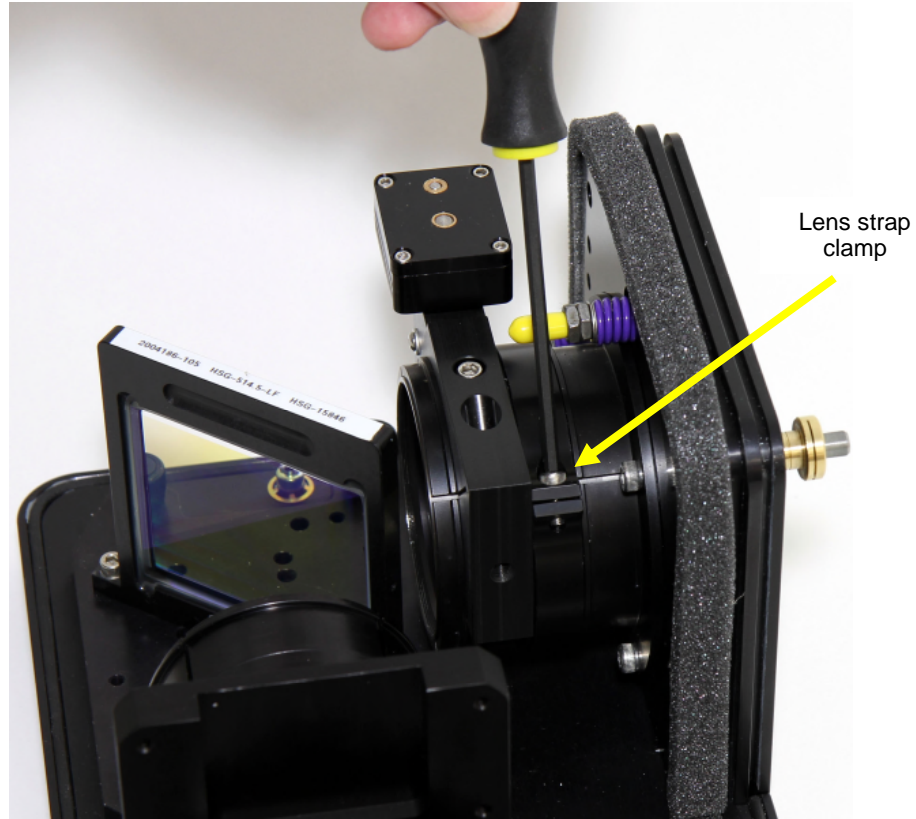

Figure 4-12. Adjusting the lens strap clamp.
- 4** Loosen the lens strap clamp (if necessary) (Figure 4-12).
- 7** Tighten the lens strap clamp (if necessary) (Figure 4-12).